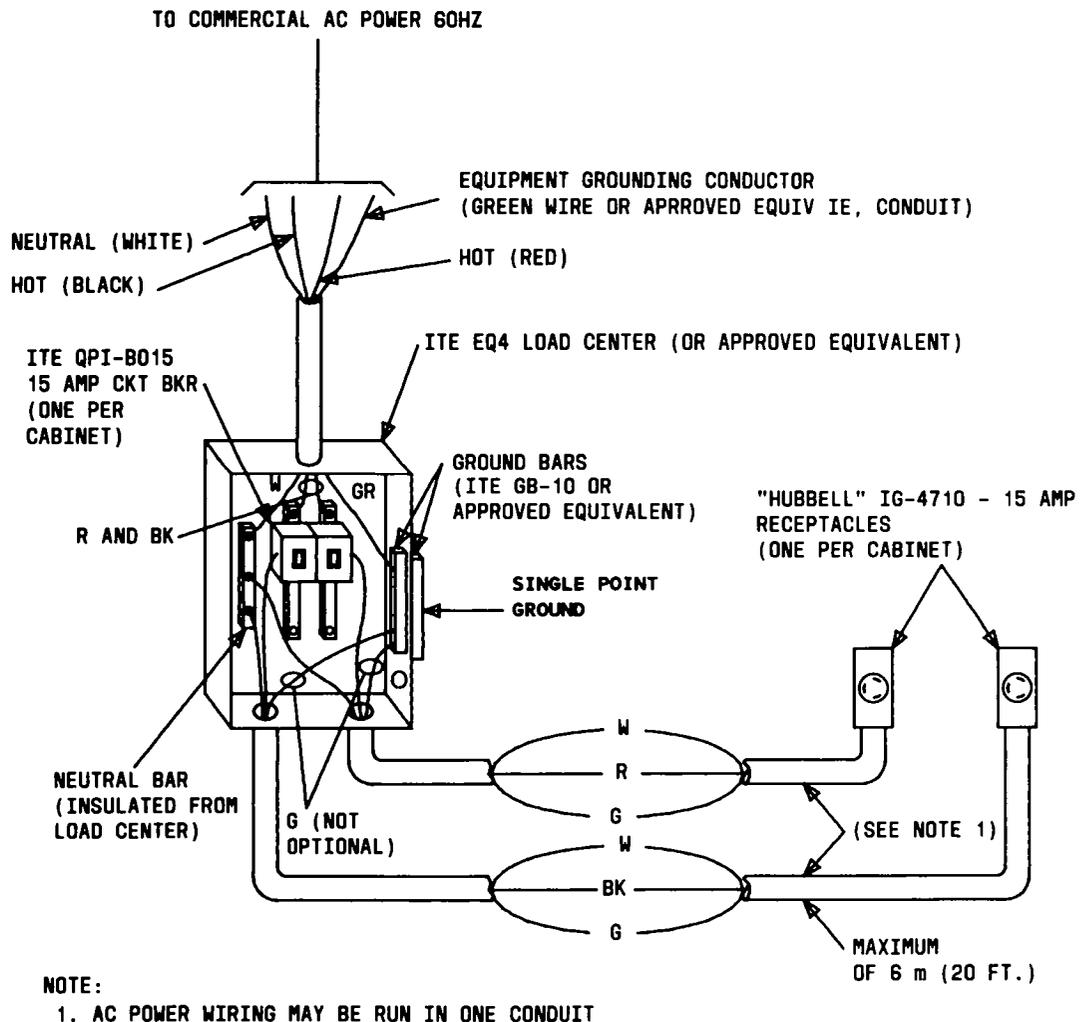

Fig. 53—Load Center and Receptacles for DIMENSION PRELUDE PBX
ground) is always provided for powering and grounding the PBX (refer to Fig. 53).
6.06 The ac distribution required for a 2-cabinet DIMENSION PRELUDE PBX system is shown in Fig. 53. Installation and wiring of an ap-
6.07 A load center (panel board) of appropriate current rating (ITE EQ4 typical, or approved equivalent) is equipped with 15-ampere single-pole thermal magnetic circuit breakers (ITE QPI-BO15 typical, or approved equivalent). Each circuit breaker protects one associated wall-mounted receptacle. The number of circuit breakers and receptacles must accommodate all cabinets (see Fig. 53).